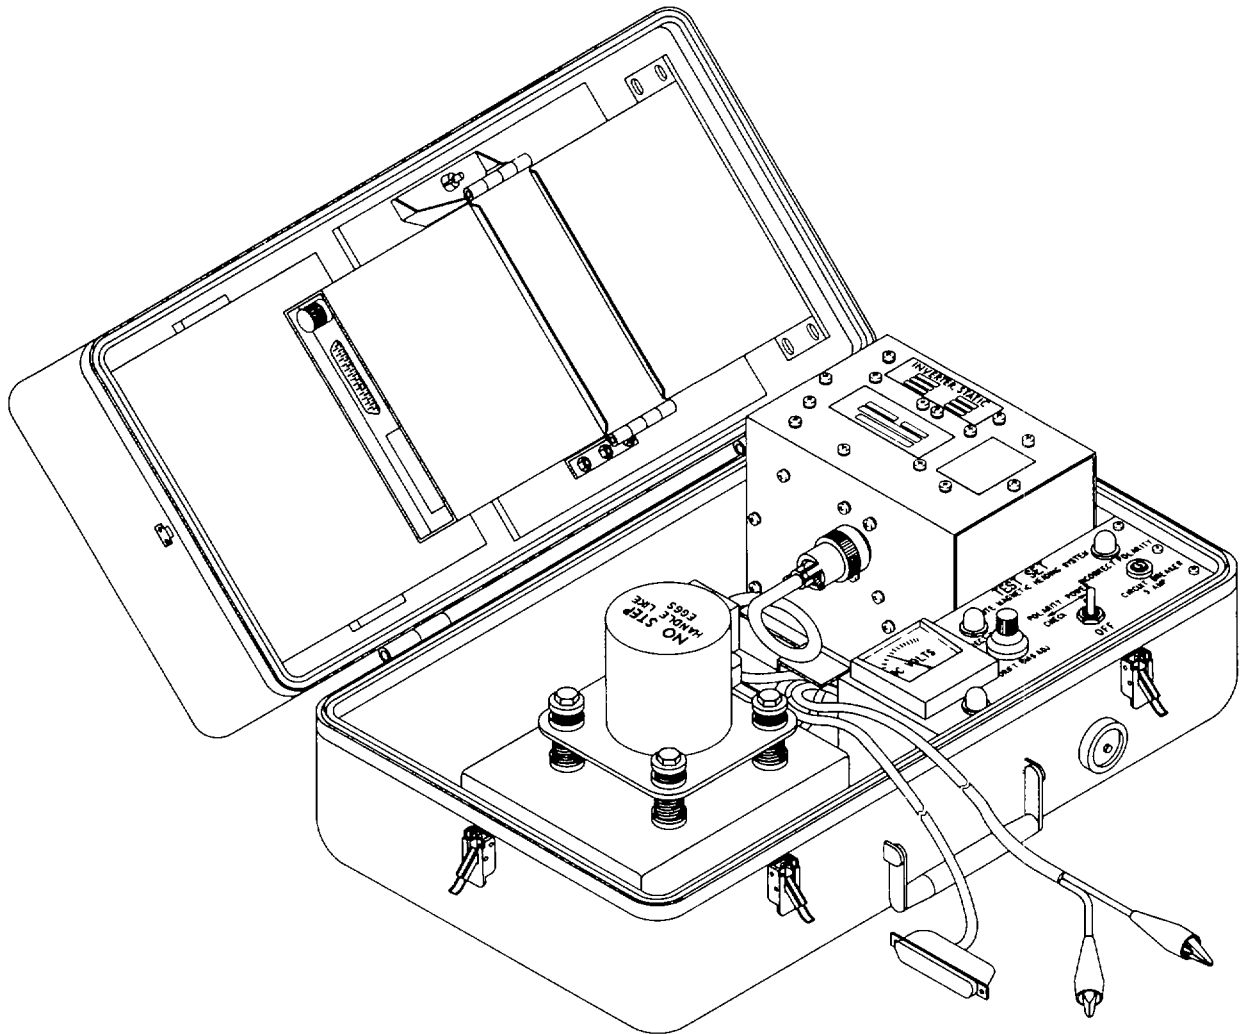

FIGURE 1-1. RMHS REFERENCE GYRO SET.
b. The RMHS Reference Gyro Set consists of four modules and cables (see figure 1-1) as listed below:
a. The portable RMHS Reference Gyro Set is housed in a metal carrying case and consists of a Directional Gyro, Power Inverter, Position Indicator, control panel, and required cables and connectors (fig. 1-1).